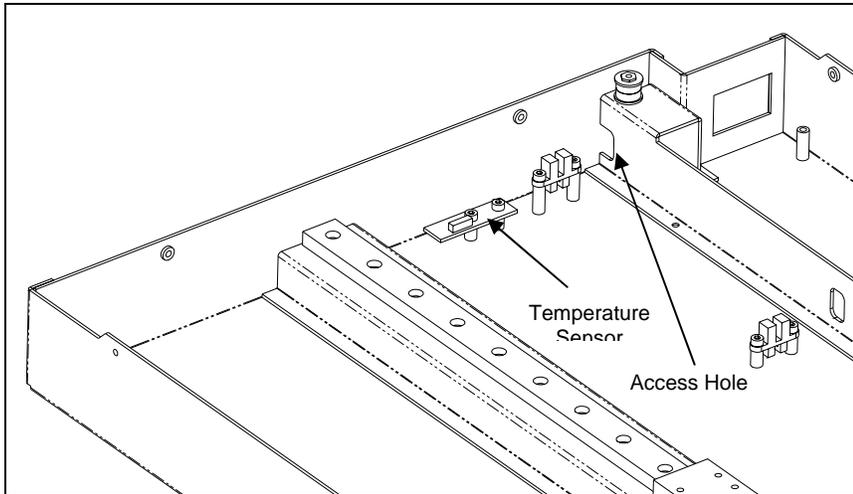

Figure 15-11 Temperature Sensor
The temperature sensor is located on a sensor-mounting bracket (Figure 15-11).
- 1 Remove the two button head screws and Nylon washers that secure the temperature sensor to the lower enclosure (Figure 15-11).